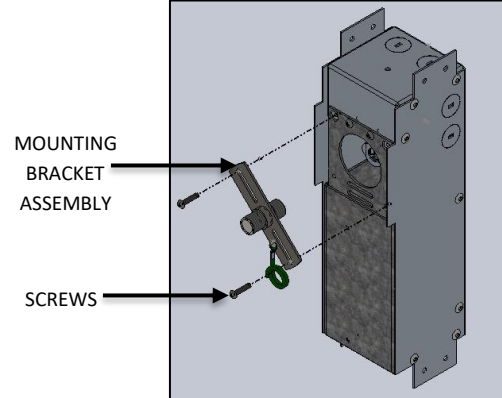

FIG. 10 - MOUNTING BRACKET DISASSEMBLY
2. Remove the SCREWS securing MOUNTING BRACKET ASSEMBLY, and slide MOUNTING BRACKET ASSEMBLY out of J-BOX as shown in FIG. 10.